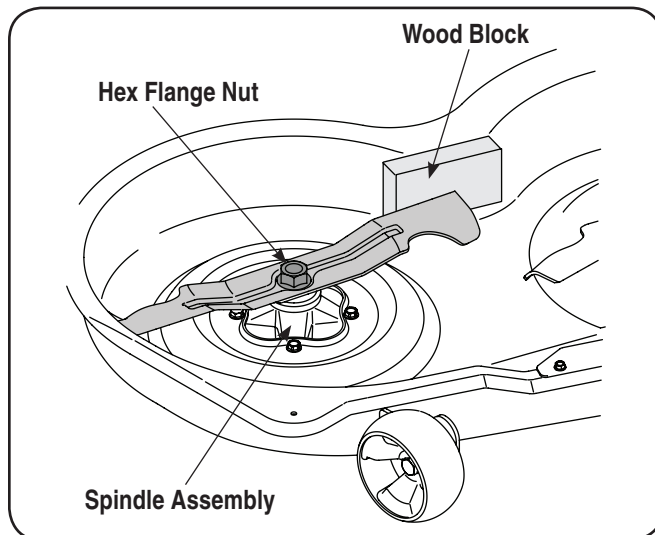

Figure 4-16
2. Place a block of wood between the center deck housing baffle and the cutting blade to act as a stabilizer. See Fig. 4-16.
3. Use a 15/16" wrench to remove the hex flange nut that secures the blades to the blade spindle assemblies. See Fig. 4-16.